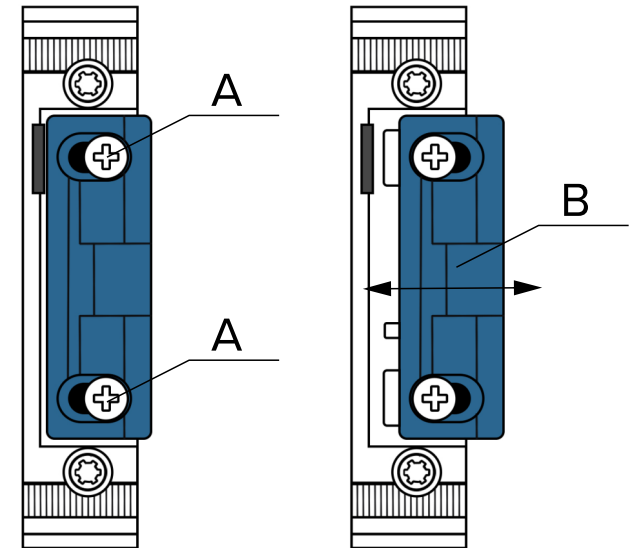

Figure 27 – Adjustment of contact
To adjust the door leaf contact, unscrew the screws (DO NOT UNSCREW THEM COMPLETELY) (A). Move the latch plate in the desired direction (B). Then, tighten the screws and check the closing of the door (figure 27).